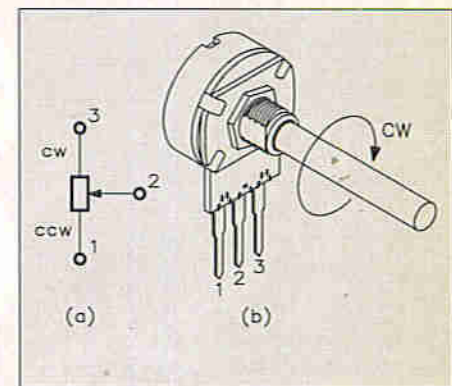

Figure 16. Symbolic representation (a) and typical appearance (b) of a modern potentiometer.
or 'pots', although the name 'potentiometer' was originally coined to describe an early ratiometric type of voltage-measuring instrument. A modern pot is the equivalent of the 3-terminal resistive unit shown in Figure 16(a). A resistive track is formed between pins 1 and 3, and electrical access to any point on the track can be made via a movable wiper that is in contact with pin 2. Pots come in a variety of shapes and sizes, but the best known is the 'rotary' type shown in Figure 16(b). The wiper, pin 2, moves towards pin 3 when the spindle is rotated clockwise (CW) and towards pin 1 when it is moved counter clockwise (CCW).